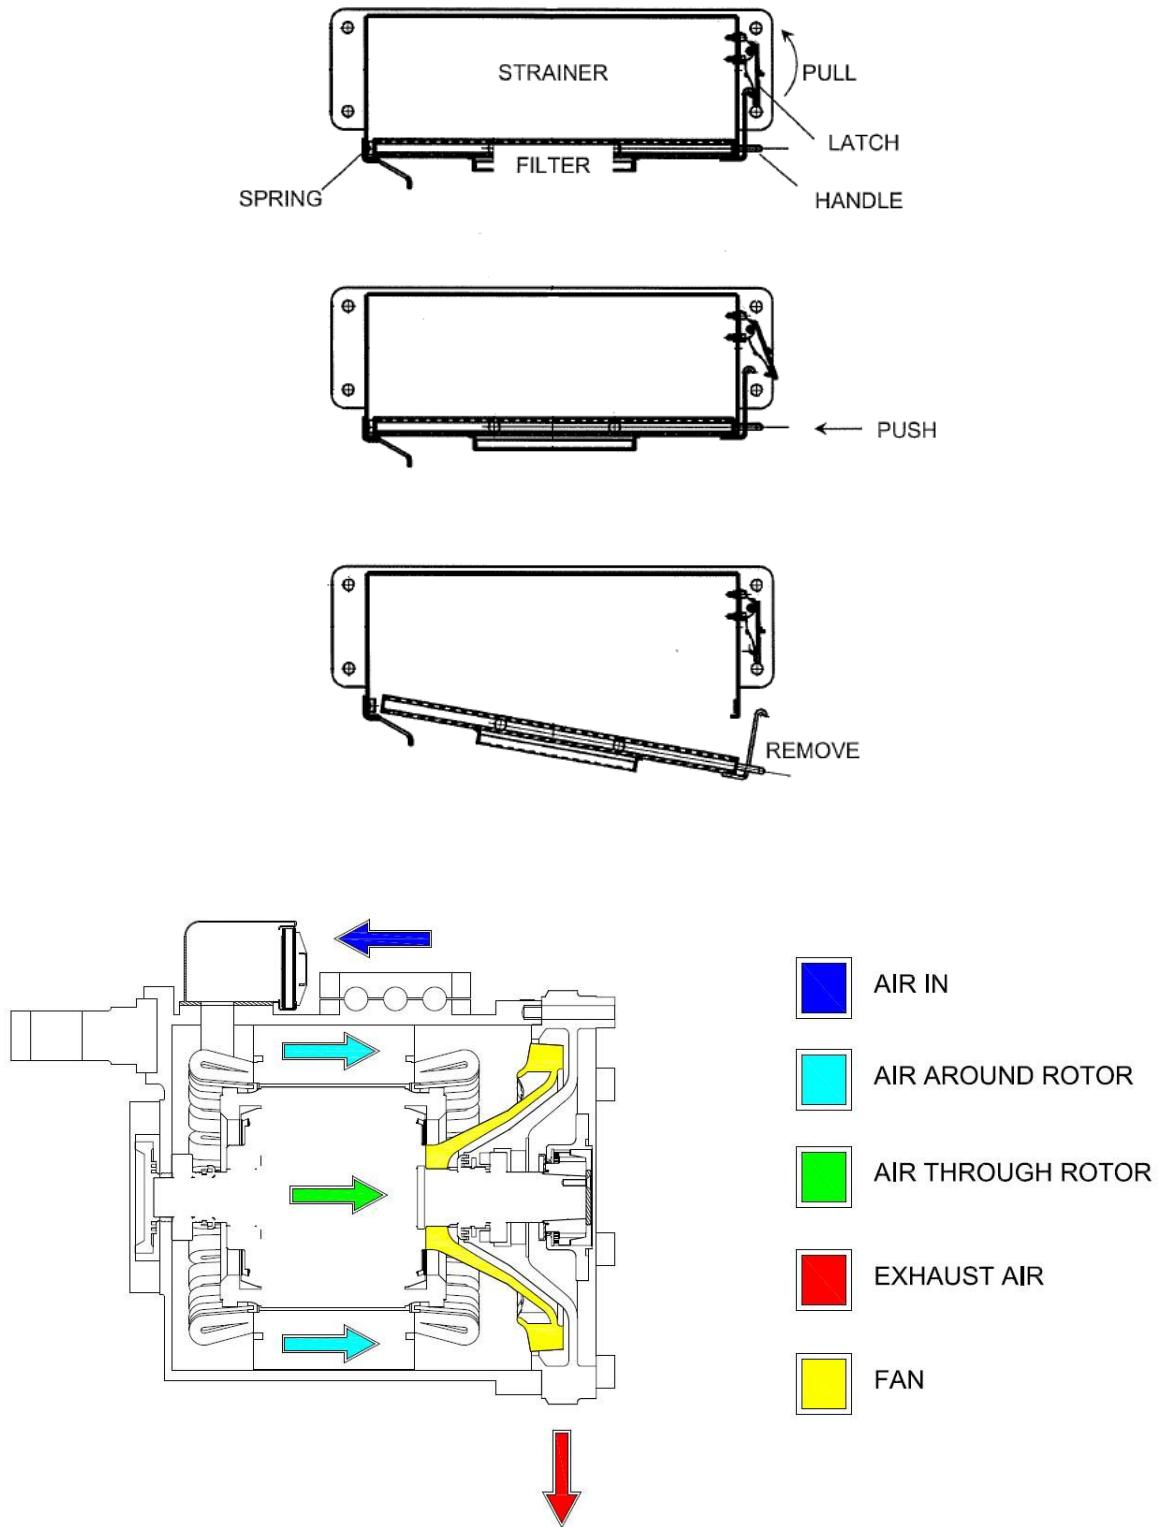

Figure 4-3: Air Filter Removal and Installation
1. Remove, clean, and reinstall the air filter as shown in Figure 4-3.
2. Clean the traction motor cooling vents by blowing it with shop air (use face mask, hearing protection, and safety glasses). The shop air should be blown through the airinlet with the traction motor air filter removed. Shop Air must be blown through the motor cooling vents for (5) minutes each motor.